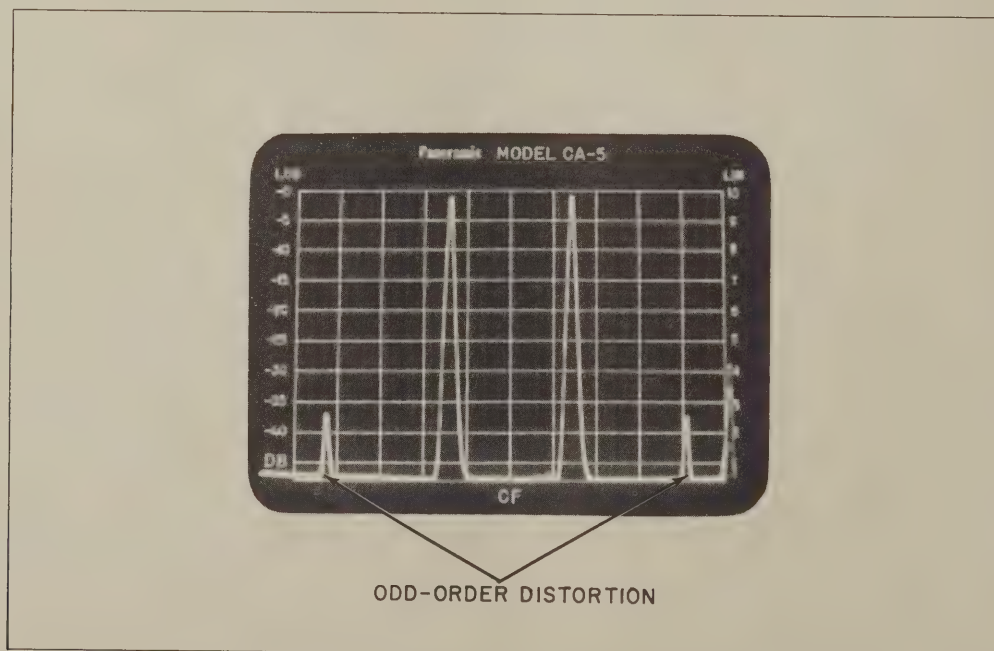

Figure 2-7. Typical CRT Presentation of Two-Tone Test
h. Odd-order distortion components are distributed symmetrically on either side of the main output signals and are located at separations equal to the frequency difference between them. The distortion components may be readily read as "dB down" from the reference levels. The third-order distortion components (first distortion pips) are usually the largest. Figure 2-7 illustrates a typical CRT presentation of a two-tone test. For a two-tone test, the CA-5 sweep width should encompass three to six times the difference between the two-tone input signals. If the sweep width is too narrow, it may not be possible to display both the primary r-f signals and their distortion products on a single sweep. When the sweep width is too wide, the two-tone pips merge and the distortion products cannot be resolved.